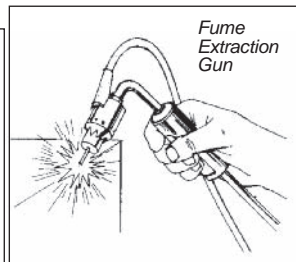

Figure 20.7
- 2) fume extraction gun (Figure 20.7)